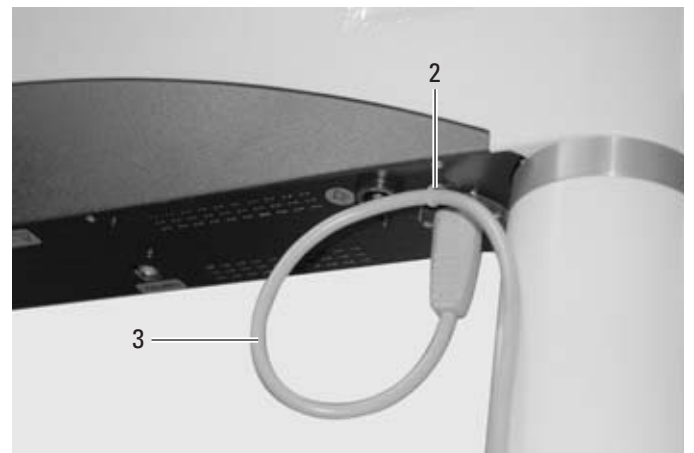

Fig. 3
⇒ Fasten the power cable (3) with the cable tie (2) (Fig. 3).